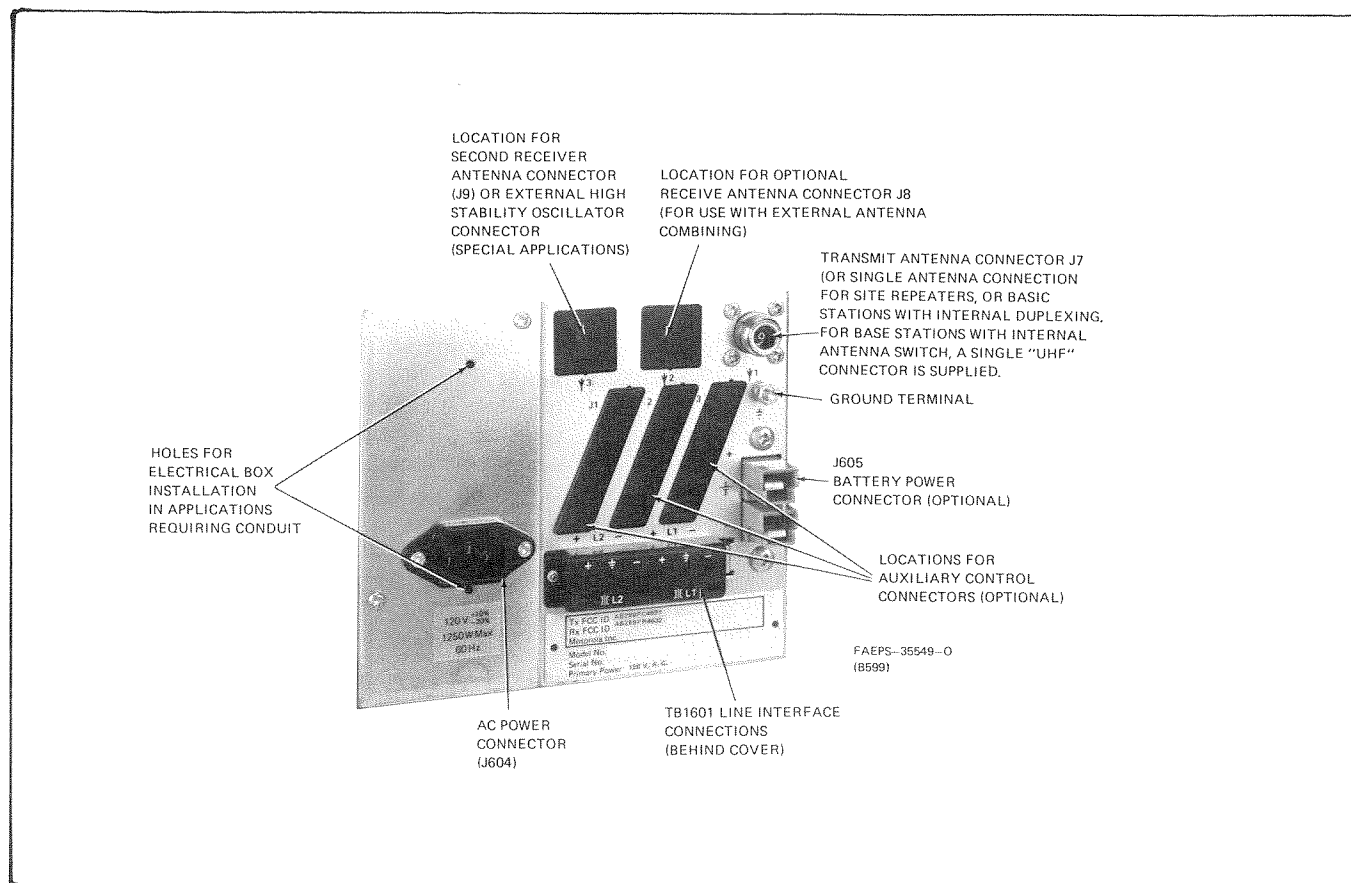

Figure 2. External Connection Details
6.1.3 All coaxial antenna cables connect to the coaxial connectors located on the junction box. For repeater stations without the internal duplexer, two antennas are required; one for the transmitter and one for the receiver. For repeater stations with the internal duplexer, only one antenna is required. Refer to Figure 2 for antenna connection details. Type "N" connectors are used for all stations except simplex units with antenna switches, which are supplied with a single "UHF" connector.
Step 2. Connect the female plug of three-wire ac line cord to the power connector on the junction box. See Figure 2.
the junction box using two #6-32 × 5/16" self-tapping washer head screws in the holes provided. See Figure 2.
Step 3. Connect the blue connector (P605, part of the TRN5155A External Battery Cable Kit) into the optional battery power connector (J605) located on the junction box. See Figure 2.
Connect the wirelines to the screw terminals on the junction box line interface terminal block as shown in Figure 2. (In 2-wire applications, use line 1 connections only.)